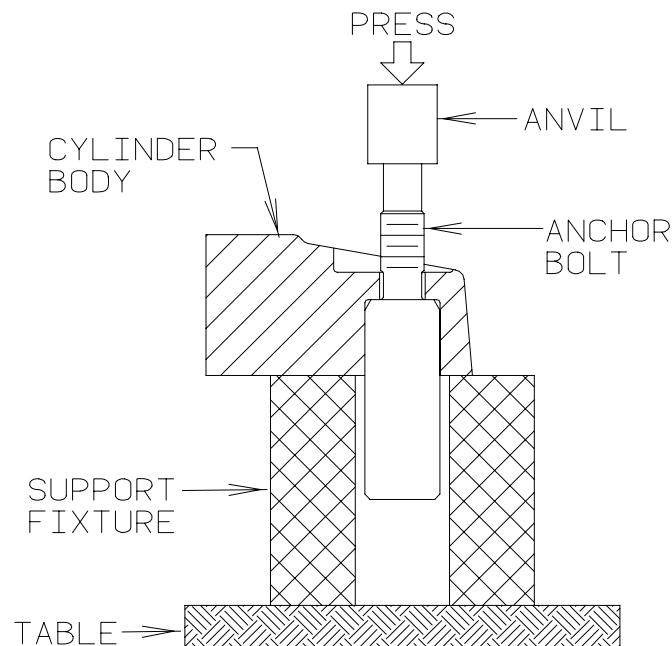

Figure 303 - Anchor Bolt Removal
(3) Anchor Bolt Removal
- (a) Remove anchor bolt attachment nuts (12) and washers (13). The anchor bolts should be removed by using an arbor press. Ref. Figure 303.